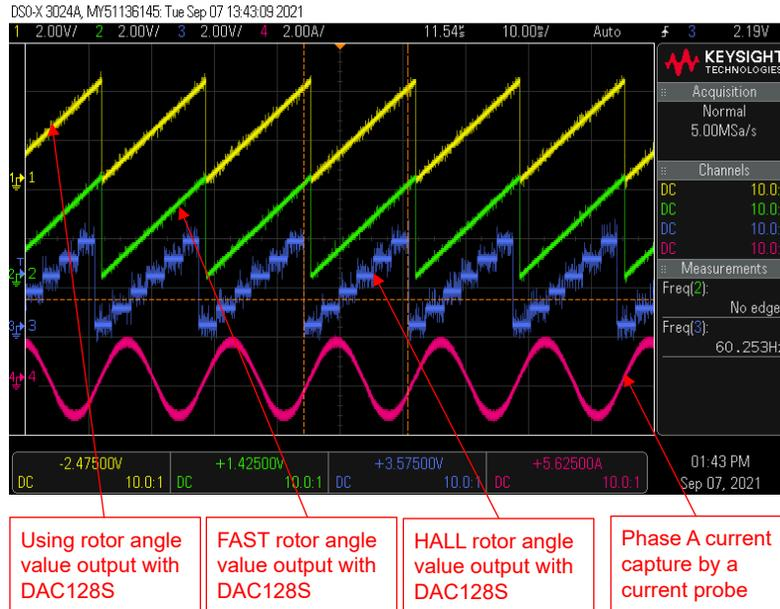

Figure 3-51. Build Level 4: Rotor Angle with FAST and Hall Sensor, Phase Current Waveforms at Forward Rotation
- The estimated rotor angles from FAST and Hall sensor are shown in Figure 3-51. The motor is running with FAST at forward rotation by setting motorVars_M1.speedRef_Hz to a positive value.
- The estimated rotor angles from FAST and Hall sensor are shown in Figure 3-51. The motor is running with Hall sensor at reversal rotation by setting motorVars_M1.speedRef_Hz to a negative value.
Use DAC128S085EVM with an oscilloscope to monitor rotor angle of the motor from the FAST estimator and Hall sensor, and a phase current of the motor as shown in Figure 3-51 when the motor is running at forward rotation by setting `motorVars_M1.speedRef_Hz` to a positive reference value.